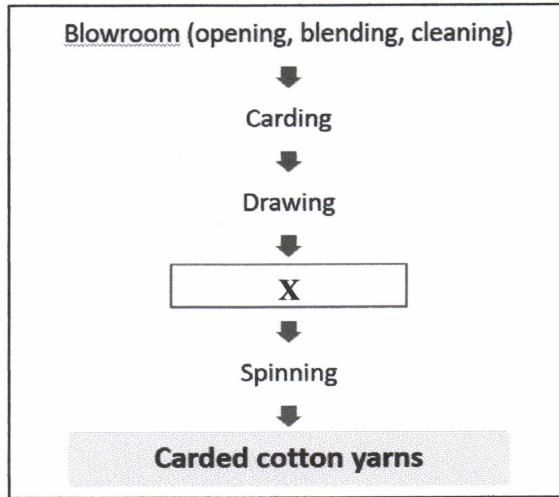
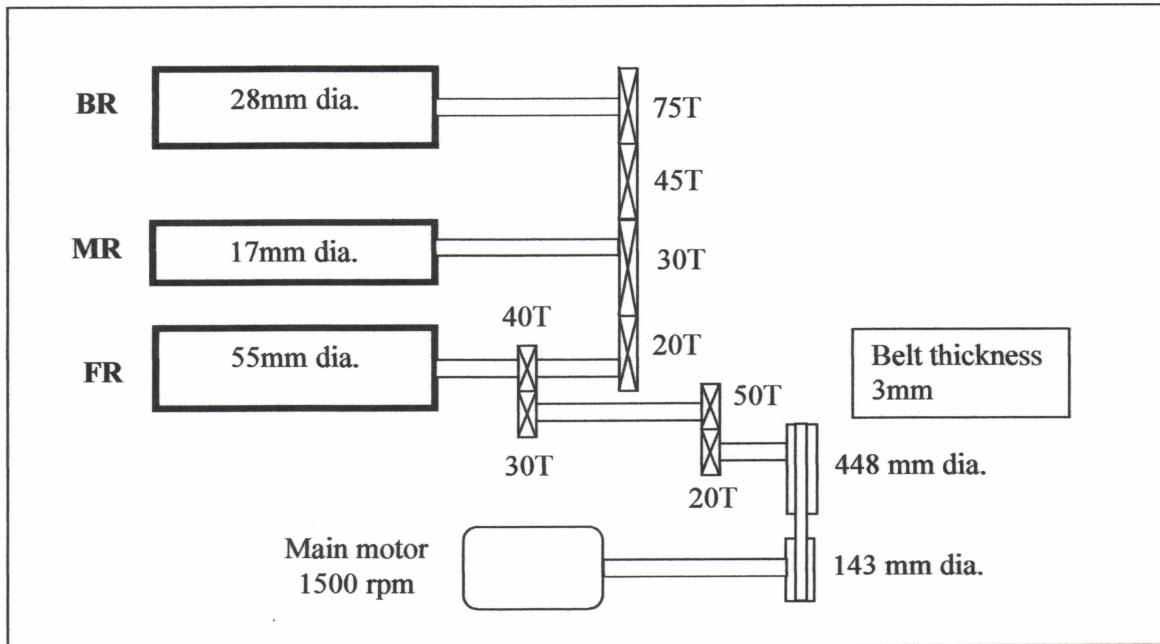

Figure Q4 (c)
Figure Q5 (a)
- (i) List **TWO (2)** mechanical factors that causes irregularity. (2 marks)
- (ii) State **THREE (3)** suggestions on how to reduce irregularity of fibres in yarn processing. (3 marks)
- (c) **Process X in Figure Q4 (c)** convert the slivers into thinner sliver size.
- (ii) Explain **TWO (2)** additional elements included in **Process X** that distinguish it from the previous drawing process. (4 marks)
- Q5 (a) Figure Q5 (a)** shows gear arrangement for spinning process. Analyse:
- (i) Draft between Front Roller (FR) and Middle Roller (MR) (3 marks)
- (ii) Draft between Middle Roller (MR) and Back Roller (BR) (3 marks)
- (c) Discover **THREE (3)** possible factors for end-breaks during ring spinning process. (3 marks)